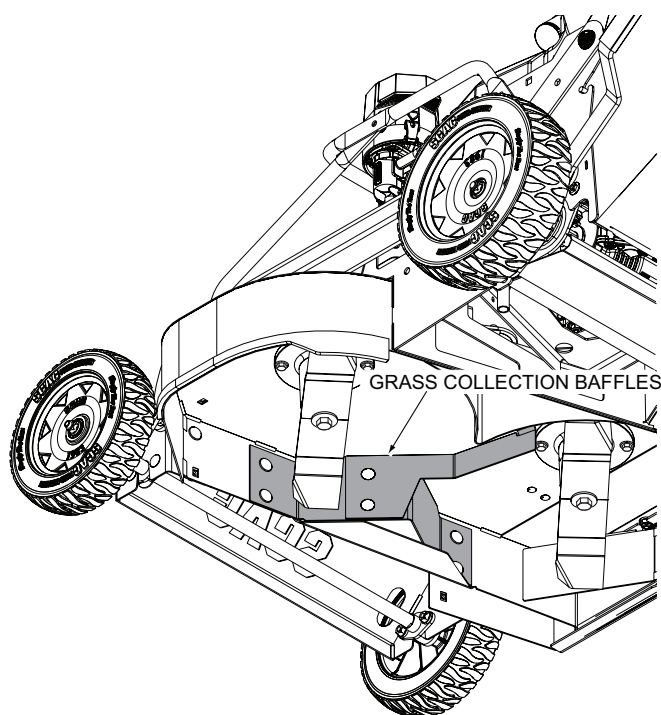

Figure 6-15. Grass Collection Baffle
5. Reinstall the grass collection baffles from the cutter deck. See Figure 6-15.